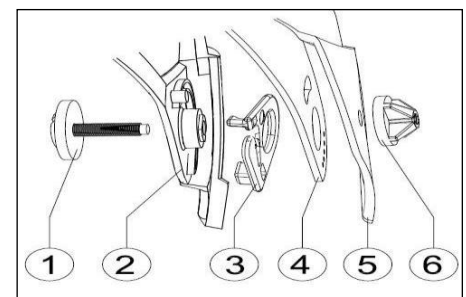

Fig. 1
1. Unscrew the screws (fig. 1, point 1 and 6) on the sides.
2. Remove the front-plate (fig. 1, point 5), having care to remove the central part from its support.
3. Remove the visor (figure 1, point 4).
4. Remove the On/Off stopper (fig.1, point 3).
5. Remove the part of the helmet (fig. 1, point 2).
1. Position the screw in the special housing found in the shell (Fig. 1 point 1)
2. Insert the On/Off stopper (Fig. 1 point 3)
3. Insert the visor (Fig. 1 point 4)
4. Position the mask (Fig. 1 point 6)
5. Lightly tighten the screw (Fig. 1 point 1 and 6)